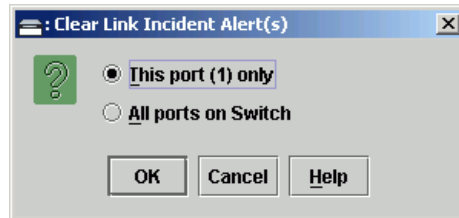

Figure 3-39 Clear Link Incident Alert(s) Dialog Box
- b. Select *Clear Link Incident Alert(s)*. The *Clear Link Incident Alert(s)* dialog box displays (Figure 3-39).